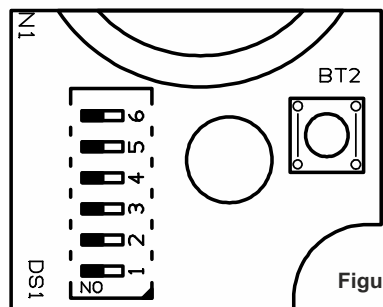

Figure 3
The BS-377/WP/A and BS-378/WP/A detectors (figure 3), have six dip-switches to adjust the operation mode.
**-S1 & S2.** These switches determine the operation of special maintenance and test functions. To conduct these functions, select the suitable combination with the switches S1 and S2 and press the internal button BT2 (figure 3) for more than 1 second. The function «output test» activates all the LEDs, the buzzer and the alarm relay and deactivates the fault relay while the button is being pressed. For the calibration function, detailed instructions are given later on in this manual.
2.Select using the switches S1 and S2 (figure 3) the special function «Clean air calibration»
3. Press the button BT2 (figure 3) for more than 3 seconds until the 3 system LEDs(green,red and yellow) start to blink with a one second rate.
5. Select via the micro-switch S4 (figure 3) the concentration of the reference calibration gas that will be used (20% or 50% L.E.L.).
6. Select via the micro-switches S1 and S2 (figure 3) the special operation «Calibration with a reference gas».
7. Press and hold the button BT2 (figure 3) for more than 3 seconds until the 3 system LEDs (green, red and yellow) start to blink **(intermittent blink once a second)** and then release the button.